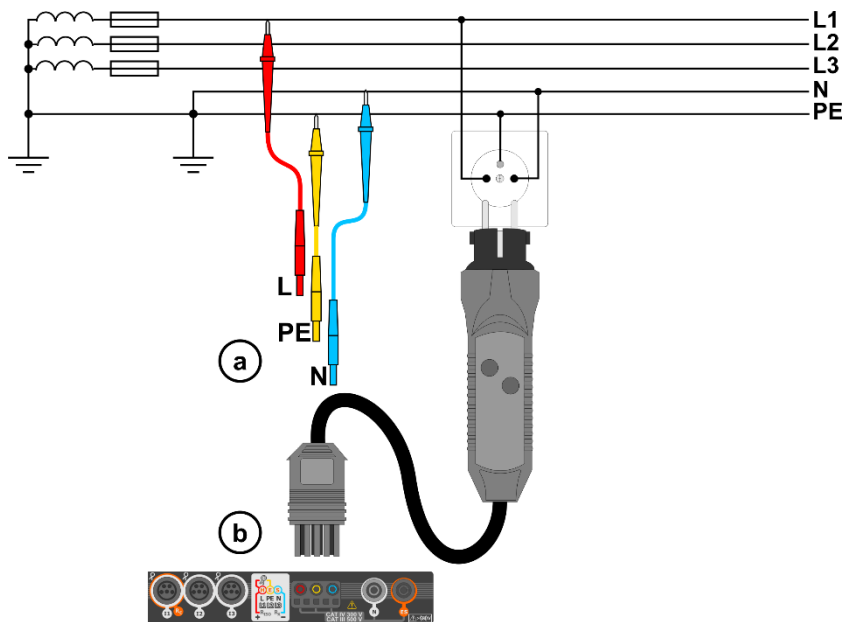
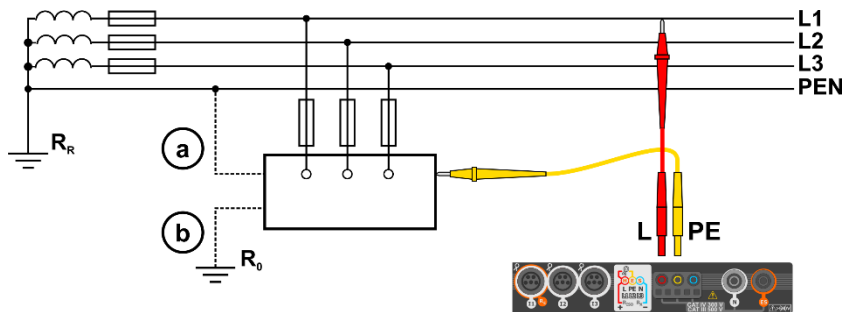

Fig. 3.1 Measurement in L-PE circuit
Fig. 3.2 Checking effectiveness of protection against electric shock of the meter housing in case of: **a** TN network or **b** TT network
- ① Connect test leads according to **Fig. 3.1** or **Fig. 3.2**.